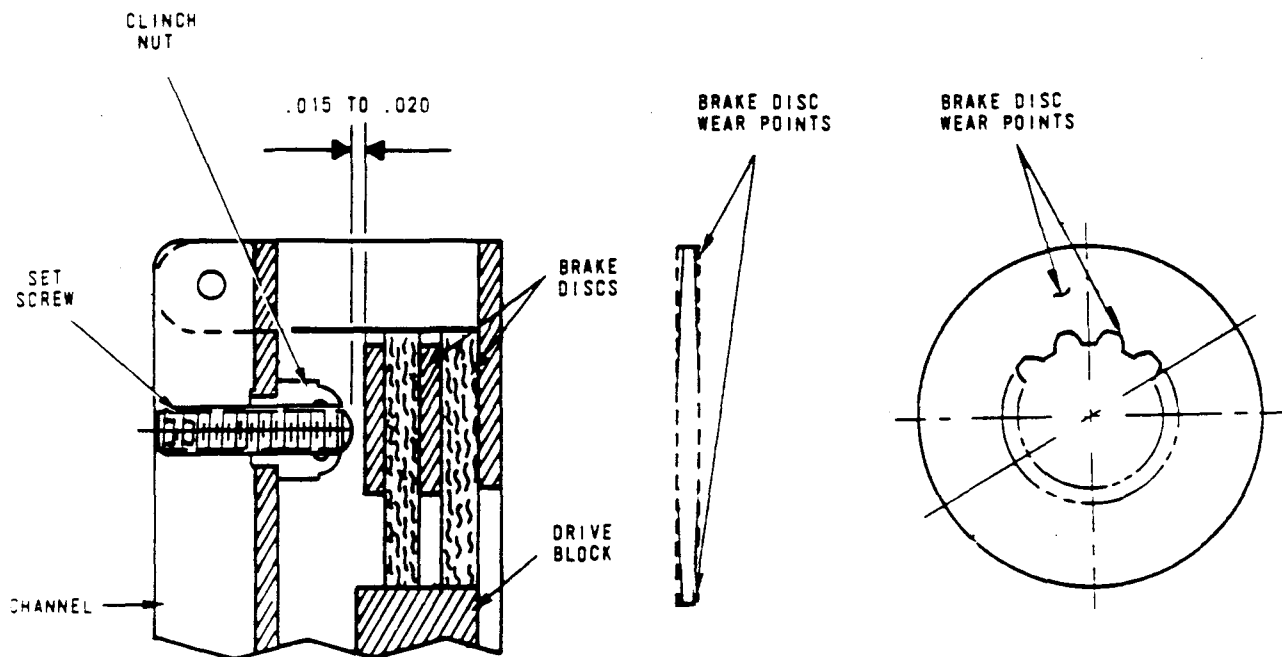

FIGURE 4.
4. Motor Brake: Check motor brake for worn discs and excessive play between the splines in the discs and the brake hub. If either disc is worn 1/16" or more replace both discs. The new disc measures 3/16". Check adjustment as shown in Figure 4 below. Clean the solenoid plunger seat and check for even seating between the plunger and coil.